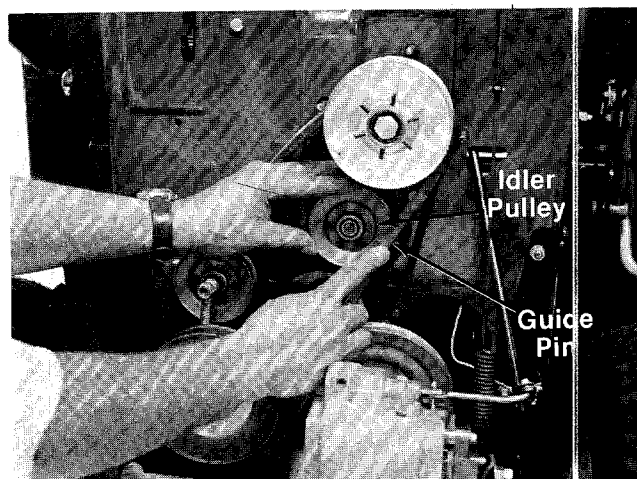

FIGURE 38.
13. When sliding the idler pulley on the idler bracket, be certain the belt is between the pulley and guide pin. See figure 38.